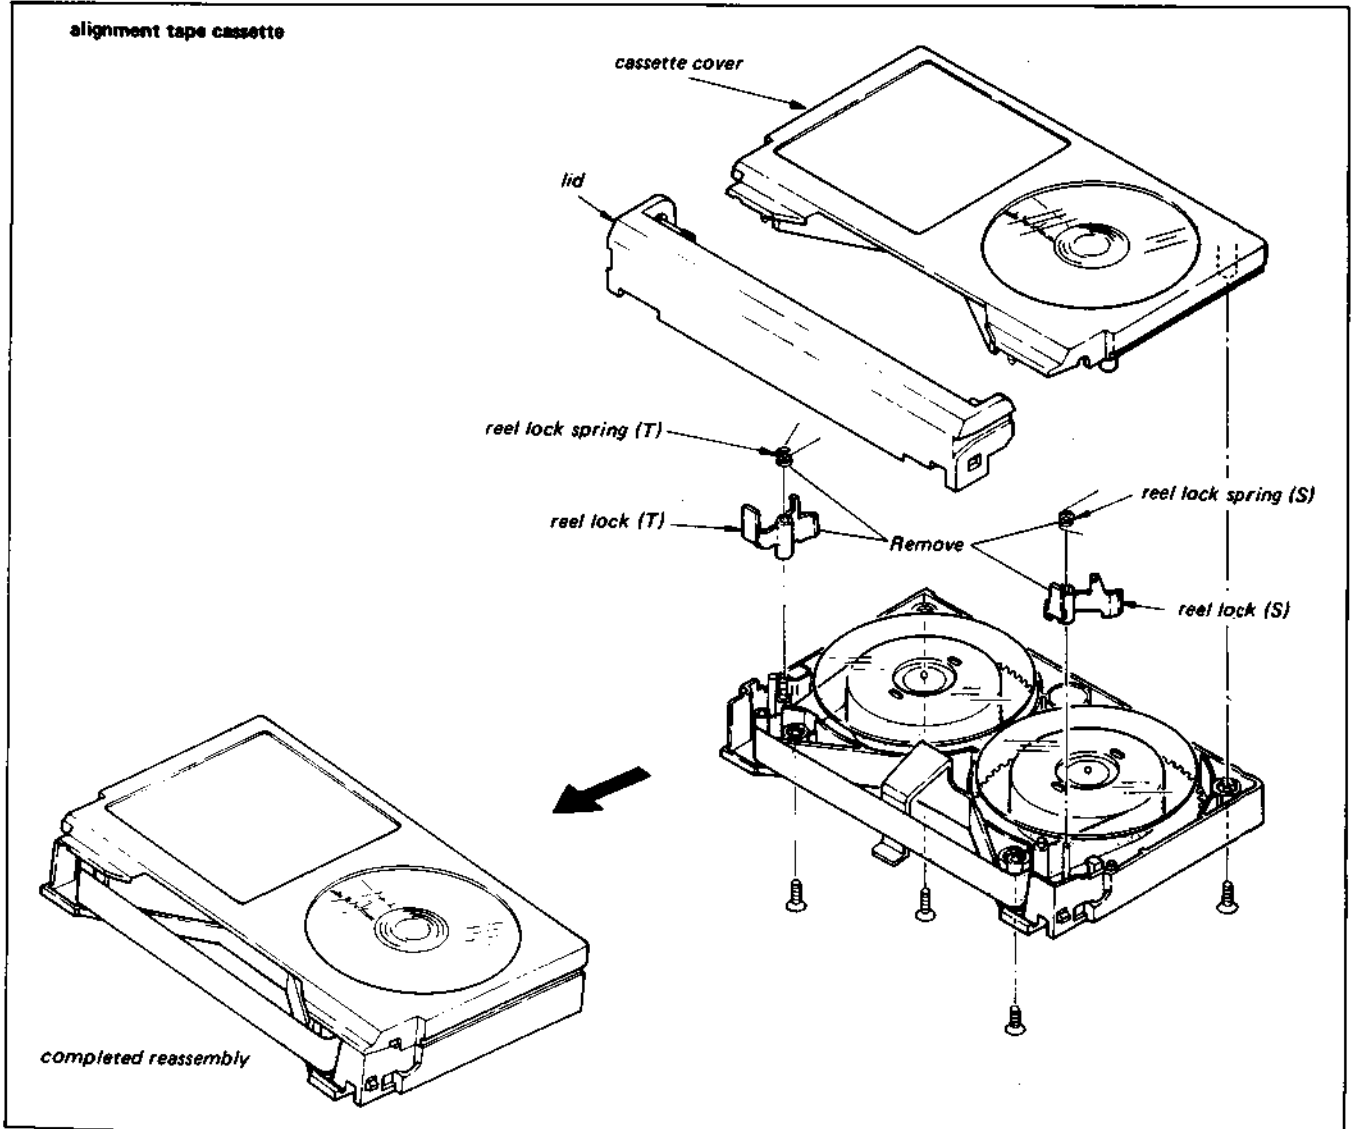

Fig. 4-1 Cassette Holder Remodeling
- 1) When modifying alignment tape KR5-2H, use caution not to dislodge the tape reels from their correct position. Refer to Fig. 4-1 and remove the four screws that secure the upper cover to the lower cover.